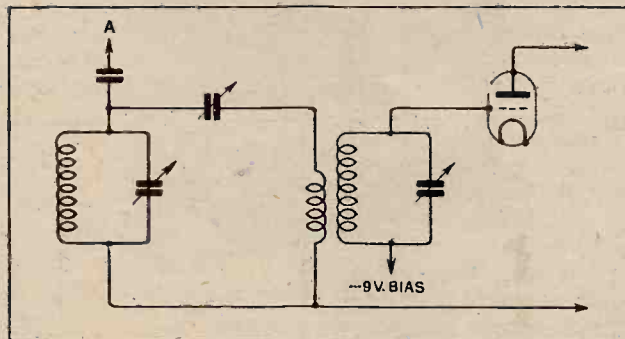

Fig. 1.—The lower end of the two tuned coils being at different potentials necessitated a common lead to the moving contact of the relay (Fig. 2 (1)).
two fixed contacts brought out to separate terminals and a revolving contact connecting to the other two when the 356-metre programme is being received, i.e., once in each cycle of four movements. A careful inspection of Fig. 1 shows that the lower ends of the two tuned coils are at different potentials. This necessitated an alteration in the tuning circuit, by means of which the lower ends of the tuned coils are made common and joined to the moving contact on the relay (Fig. 2 (1)). The additional (wavelength raising) condensers were connected to the fixed contacts of the relay on the one side and to the aerial and grid ends of the tuning coils on the other (Fig. 2 (2), (3)).